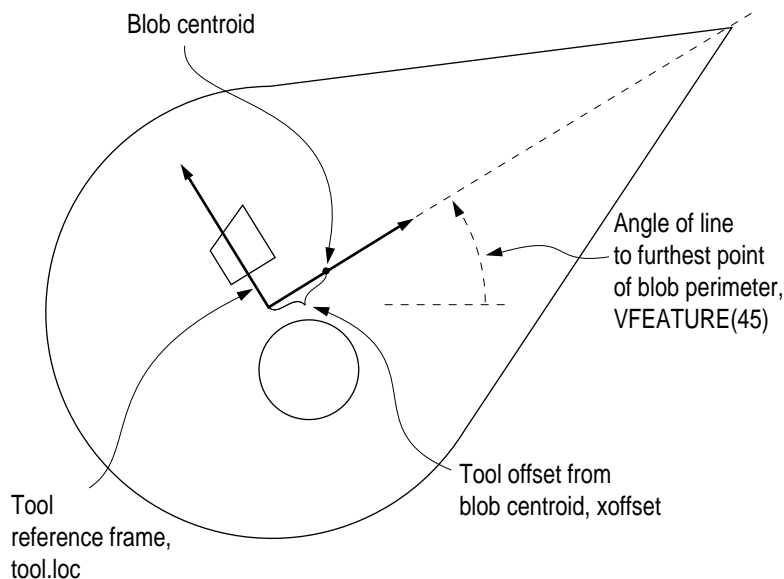

Figure 15-2. Blob-Relative Inspection
**Figure 15-2** shows how the reference frame for the preceding code was calculated.